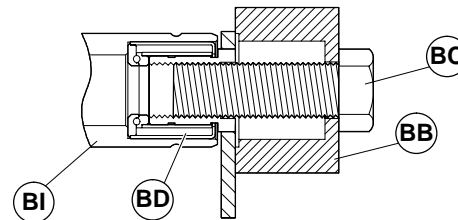

Figure 36
7. Turn bolt (BC) until retaining sleeve (BD of Figure 36) separates from pulley (BI). Remove retaining sleeve (BD).